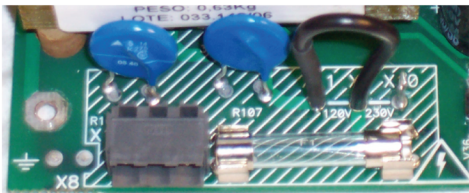

Figure 3 – 110/120V (X11-X9)
- 3. Connect the control power leads to the connector X1-1, 2, and 3 (PE). Select the power supply voltage by connecting the wire with the fast-on terminal from X9 to either X10 (110/120V or X11 (220/230V) located on the control board. (See Figure 3 and 4).